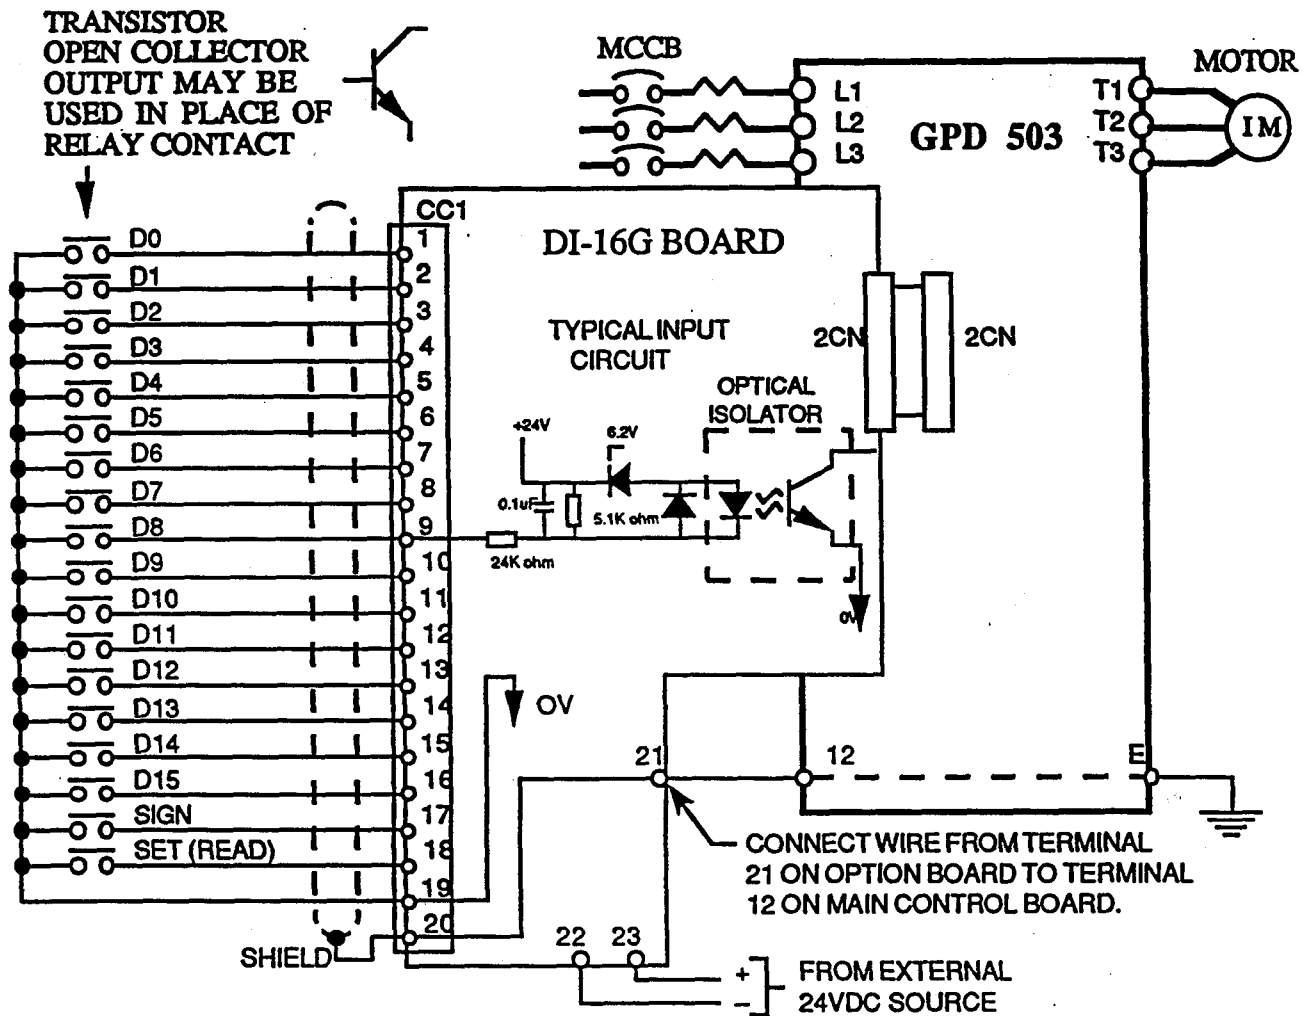

Figure 2. Interconnection for Digital Speed Reference (DI-16G) Circuit
5. **Wiring.** See Figure 2 for Digital Speed Reference (DI-16G) connections. Connect digital input signals to the option board via connector CC1. See Table 2 for connector pin functions.